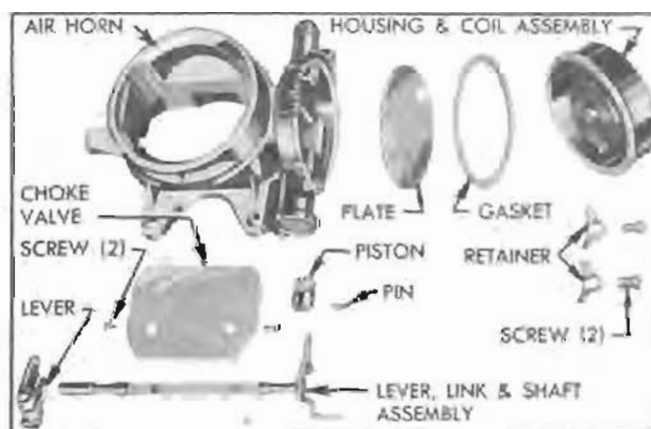

Figure 3-31—Air Horn and Climatic Control—Disassembled
4. Remove thermostatic housing and coil assembly, gasket, and baffle plate from air horn. See figure 3-31.
5. Remove choke valve. Rotate shaft to disengage piston from its cylinder. Remove choke shaft and lever assembly with piston attached. Remove piston pin and piston from link. See figure 3-31.